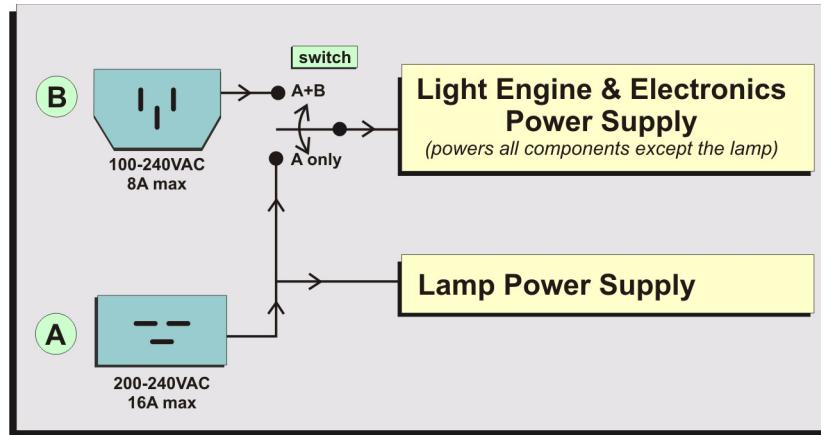

FIGURE 2-2 CONNECTING TO POWER
For all other regions, ensure a line cord, power plug and socket that meet the appropriate rating standards are used. When the main inlet is used the AC switch must be set to **A only** (Figure 2-2).
2. An optional feature to power all electronics through a UPS is available using the secondary inlet. When the secondary inlet is used the AC switch must be set to the **A + B** (Figure 2-2). This feature enables users to power all electronics through a UPS, which minimizes downtime in the event of a brief power outage.